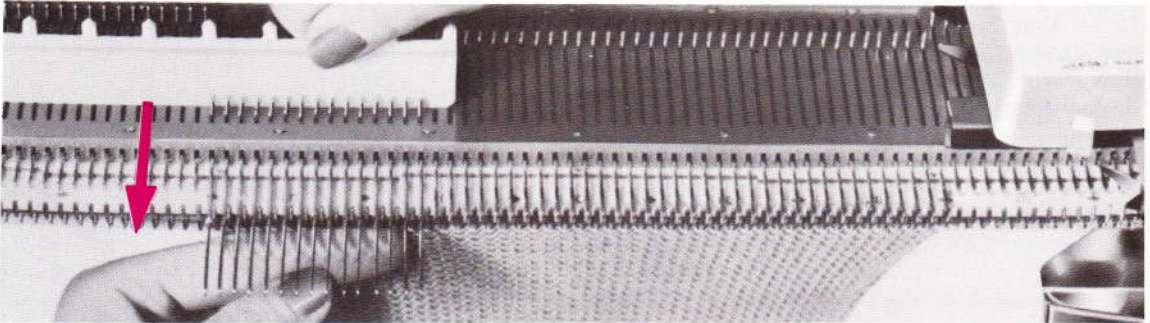

Fig. 175
2. Using the flat needle selection bar push the 15 needles on the left to F position holding the knitting against the needle bed with the left hand (fig. 175). Push carriage from right to left.